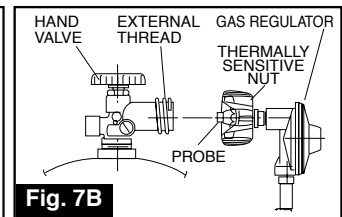

Fig. 7B
- Propane cylinder valve – including threads into cylinder (see Figure 7B)
- Regulator fitting and propane cylinder connection (see Figure 7B)